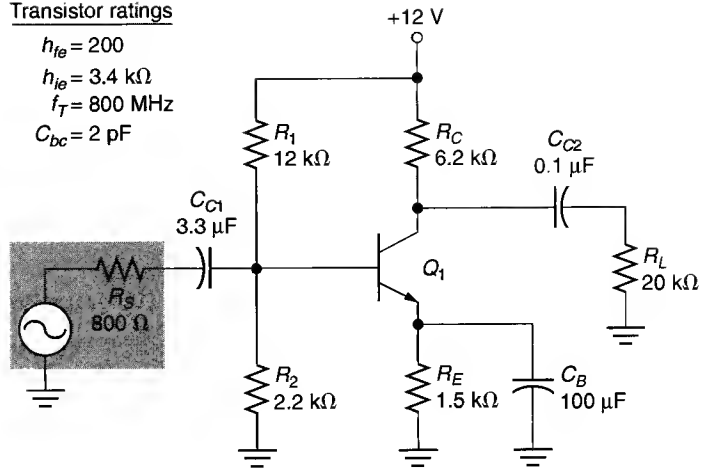

FIGURE 14.33
29. Calculate the overall values of f_{C1} and f_{C2} for the amplifier in Figure 14.33.